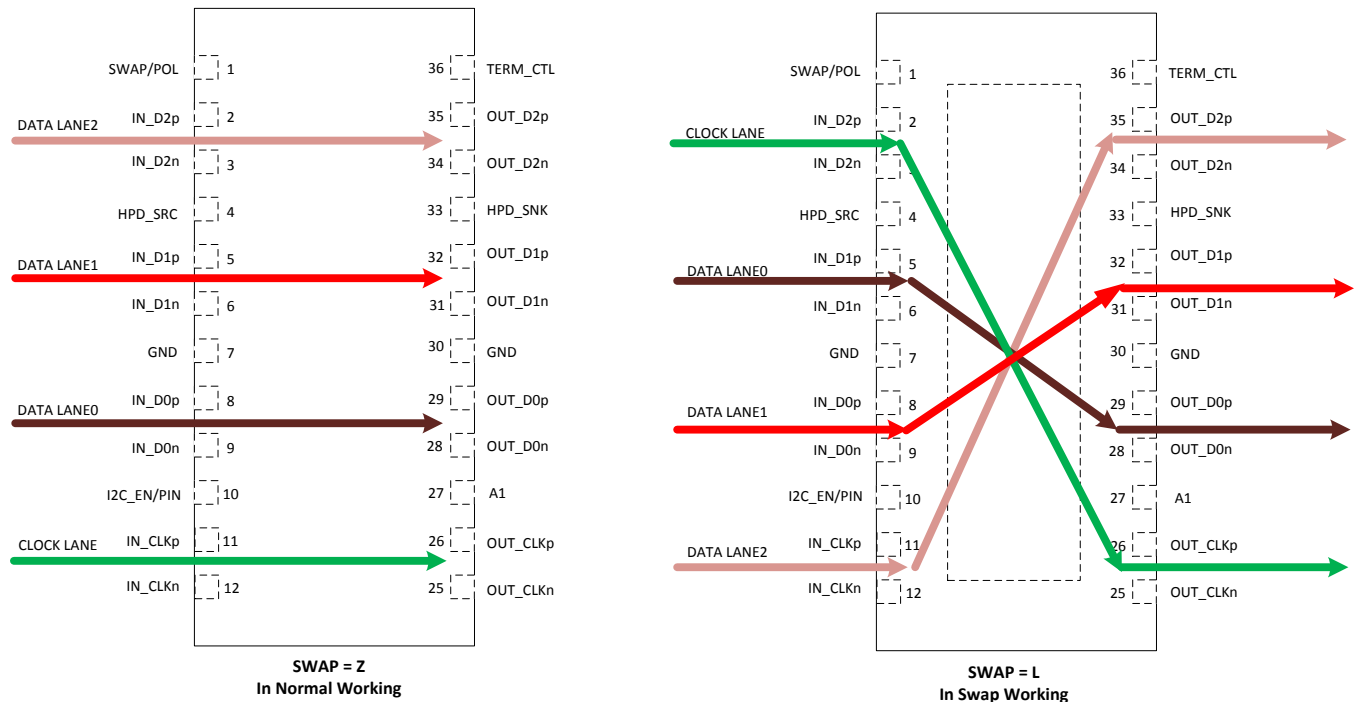

Figure 26. TMDS181 Swap Function
TMD5181 incorporates swap function, which can set the input lanes in swap mode. The IN_D2 routes to the OUT_CLK position. The IN_D1 swaps with IN_D0. The swap function only changes the input pins. The EQ setup follows the new mapping (see Figure 26). This function can be used with the SWAP/POL pin 1 and control the register 0x09h bit 7 for SWAP enable. Lane swap function works in both redriver and retimer mode.
(1) The output lanes never change, only the input lanes change. See Figure 26.